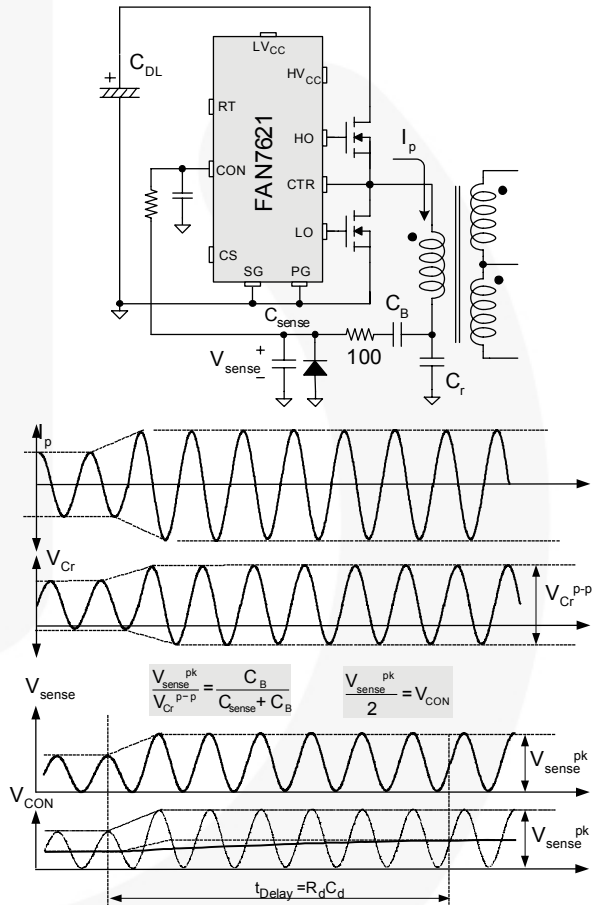

Figure 27. Current Sensing Using Resonant Capacitor Voltage
To minimize power dissipation, a capacitive voltage divider is generally used for capacitor voltage sensing, as shown in Figure 27.
5.7 Overload Protection (OLP): Overload is defined as the load current exceeding its normal level due to an unexpected abnormal event. In this situation, the protection circuit should trigger to protect the power supply. However, even when the power supply is in the normal condition, the overload situation can occur during the load transition. To avoid premature triggering of protection, the overload protection circuit should be designed to trigger only after a specified time to determine whether it is a transient situation or a true overload situation. Figure 27 shows a typical overload protection circuit. By sensing the resonant capacitor voltage on the control pin, the overload protection can be implemented. Using RC time constant, shutdown delay can be also introduced. The voltage obtained on the control pin is given as: